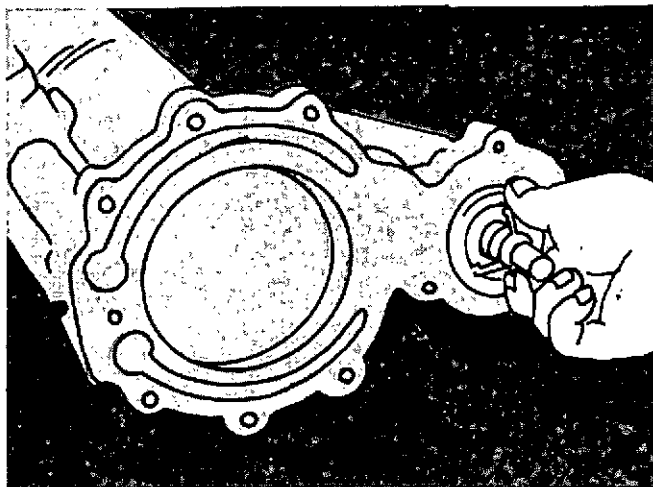

Fig. 7-33. Install The Thermostat.
2. Install the thermostat into the housing. Push the thermostat into the housing until it is against the bottom of the bore, Fig. 7-33